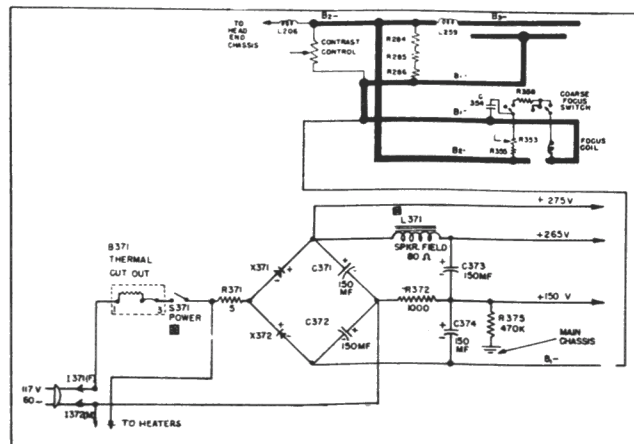
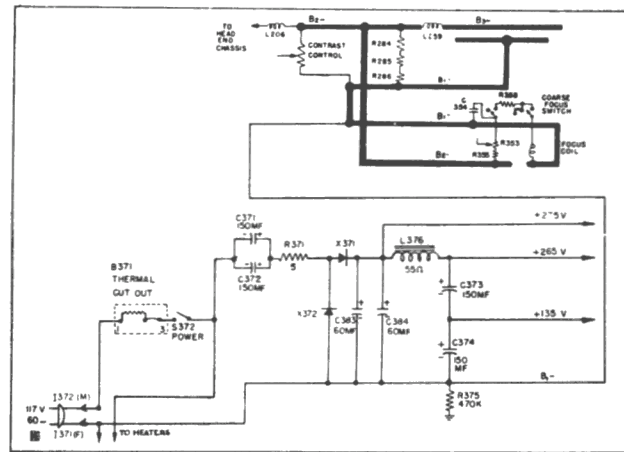

Fig. 12. B+ Voltage Supply (Early Production)
Fig. 13. B+ Voltage Supply ("T," "U," and "W")
9. B+ POWER SUPPLIES (SEE FIGURES 12 AND 13).
Two types of voltage doublers were used in production of these receivers. Early production used a full-wave voltage doubler, as shown in Figure 12. "U," "W" and "X" productions used a half-wave voltage doubler circuit, as shown in Figure 13.
The rectifiers in Figure 12 are connected to conduct on alternate half cycles of the line voltage. When the line voltage at R371 is positive, X371 selenium rectifier will conduct and charge C371 to approximately 150 v., the peak voltage of one half the sine wave. On the other half cycle when the power line at the junction of R372, C371 and C372 is positive, X372 will conduct and charge C372 to approximately 150 volts. The B+ voltage may be tapped off across either C371 or C372, or across these two capacitors in series giving a B+ voltage which is the sum of the two capacitor potentials. L371, C373, C374, and R372 give additional filtering. C373 and C374 are capacity dividers which give voltage division.
"T," "U," and "W" version receivers used a half-wave voltage doubler circuit shown in Figure 13 to obtain a B+ voltage supply. Selenium rectifier X372 will conduct when the power line at S372 is negative, charging C371 and C372 (as shown in Figure 13) to approximately 150 volts. On the next half cycle when the power line at S372 is positive, the charge across C371 and C372 is in series with the power line voltage and will add to the power line voltage to charge C383 and C384 through X371 to approximately 300 volts, the sum of the half cycle peak voltage and the charge across C371 and C372. L376, C373, and C374 give additional filtering. Capacitors C373 and C374 in series act as a voltage divider to obtain a low and a high B+ source.